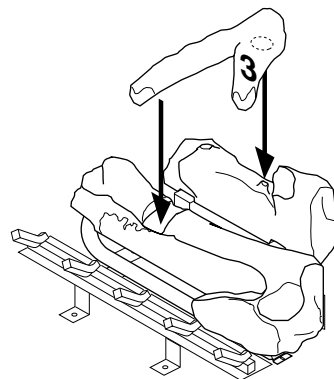

Figure 44 - Installing Log No. 3
4. Place log #3 (crossover log) onto the rear and front logs. Make sure it is seated properly into the notch on the front log and over the raised triangular portion of the rear log as shown in Figure 44.